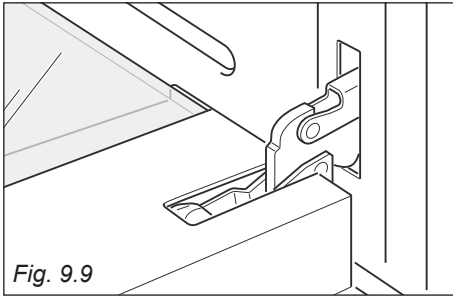

Fig. 9.9
- Open the door to the full extent (fig. 9.9).